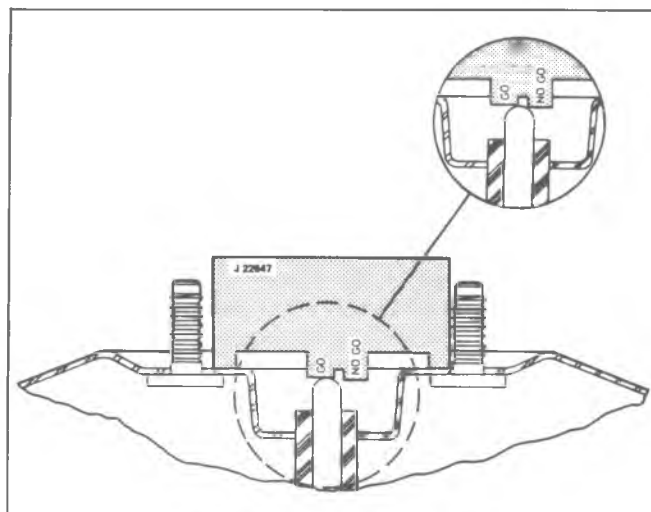

Fig. 5-5D--Gaging Piston Rod
5. Place Gage J-22647 over the piston rod in a position which will allow the gage to be slipped to the left or right without contacting the studs (fig. 5-5D).